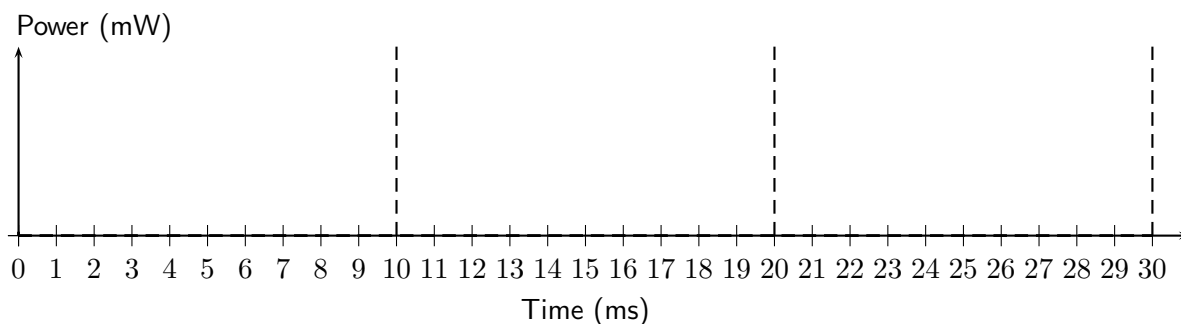

Abbildung 23: Diagram for Aufgabe 3.2 (c)
- (c) (3 Punkte) Now assume that the system does NOT necessarily switch to standby mode when there are no tasks to be executed. Plot the power consumption of the work-conserving schedule which minimizes the energy consumed. Please use Figure 23. What is the value of E_{av} ?